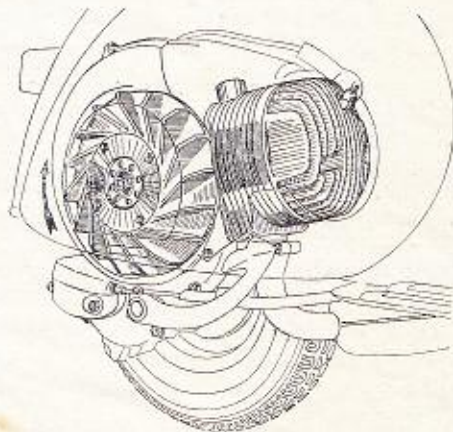

Fig. 8. Cooling system.
**Cooling** effected at all speeds by centrifugal fan (see Fig. 8).